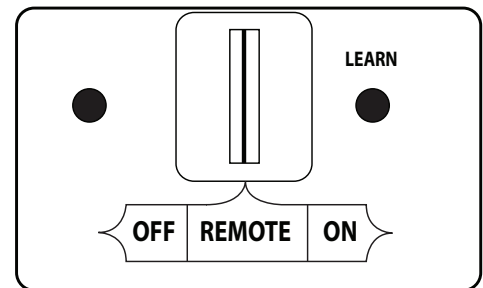
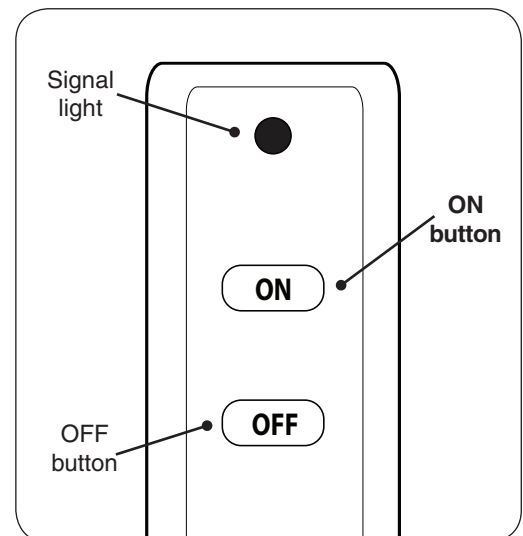

Fig. 29-1 Remote receiver detail (REMOTE)
Fig. 29-2 Remote transmitter detail
1. Locate the 3-position switch on the remote receiver (see Fig. 29-1), and slide the switch to the **REMOTE** position.
**Note:** For 01/02M Models, ensure that the ON/OFF switch at the front of the switch box is in the **OFF (O)** position.
2. Locate the remote transmitter and press the **ON** button (see Fig. 29-2). The ignition sequence will begin.